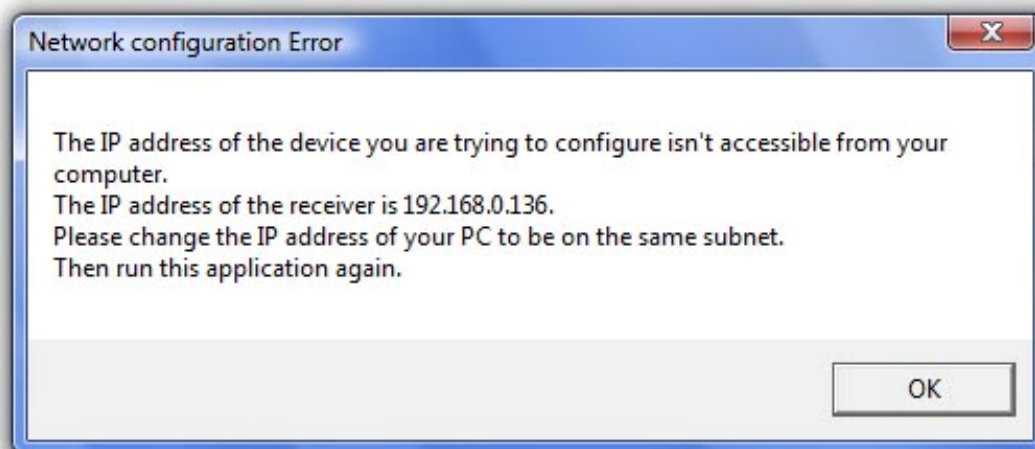

Figure 2 – Change IP Address Screen
- 3- The first step in configuring your S200 is to ensure the network settings of the device make it accessible from the Windows management PC. The IP address of the device and the IP address of the management station must reside on the same subnet, or there must be a route that connects both of them through a router. If this is NOT the case, you will be prompted with the Change IP Address Screen as shown below in Figure 2. You will need to change the IP address of your management PC to be on the same subnet as the receiver (in this case, change your PC IP address to: 192.168.0.xxx, where xxx is not equal to 136)